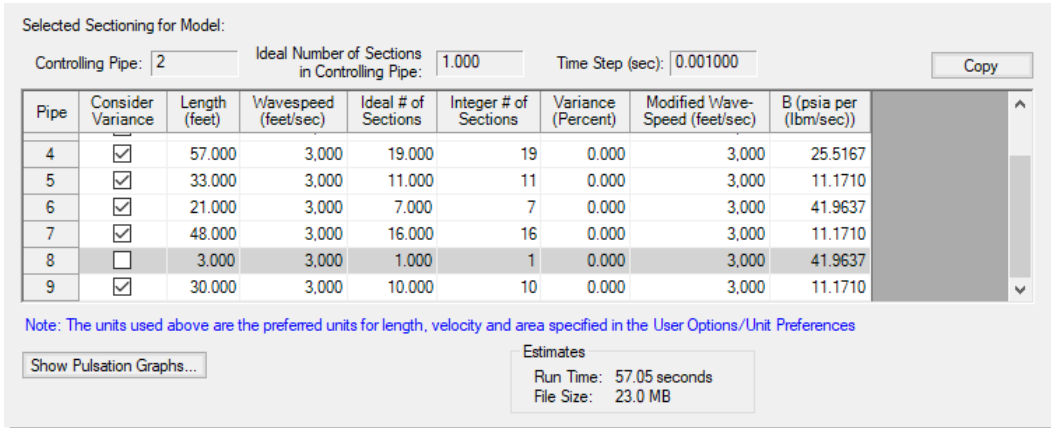

Figure 6.15 Sectioning panel excluding the variance at Pipe P8
1. Select the significant pipes that should consider variance. In our example, we will consider the variance in all modeled pipes, except for pipe P8. You can see that this pipe has been excluded in Figure 6.15. Pipe P8 is excluded because it represents a flow meter and not an actual pipe. Units such as flow meters and dampeners may be better modelled with a pipe than with a junction if they have significant length and associated acoustic interaction aspects in the physical system. Ensure that the box next to each pipe is selected under Consider Variance, except for pipe P8.